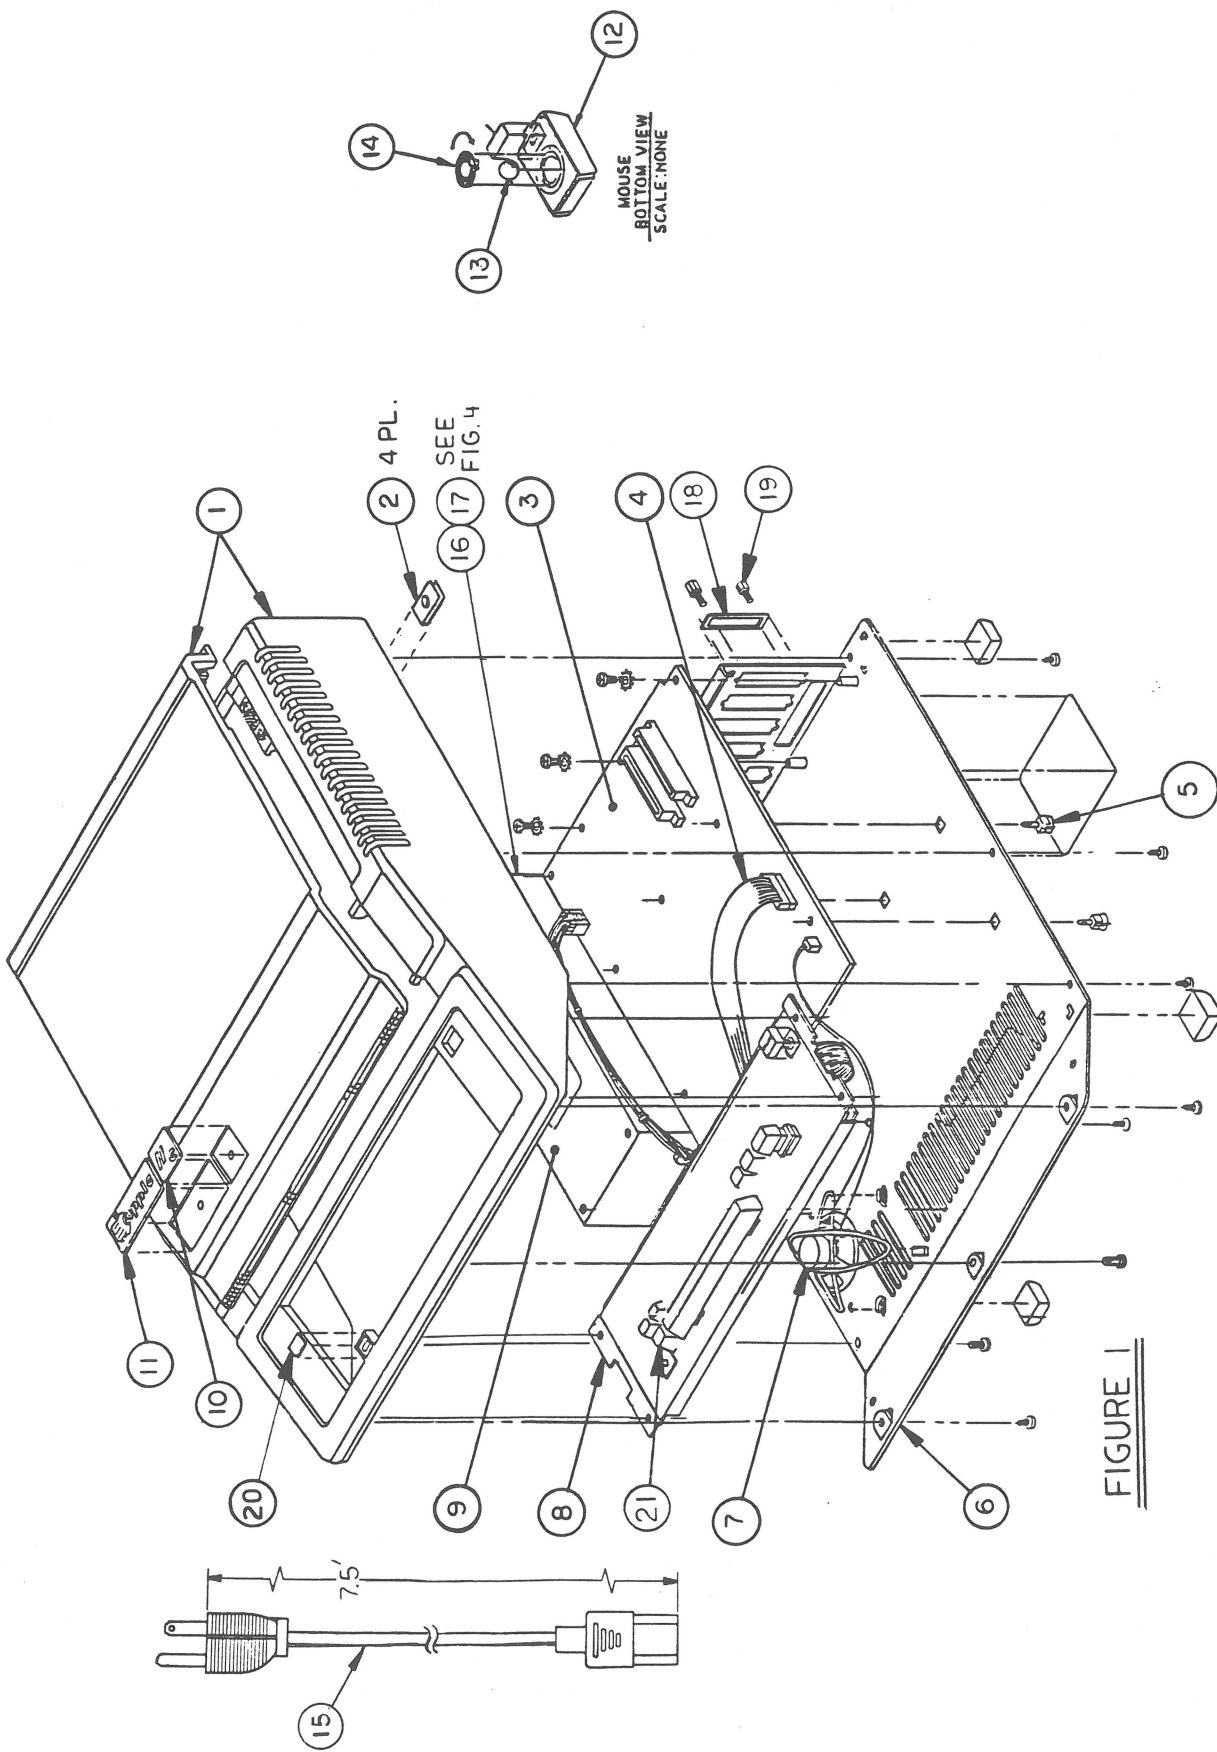

FIGURE 1
- IPL.3 Finished Goods Assembly (Figure 1)
□ **FINISHED GOODS ASSEMBLY (Figure 1)**